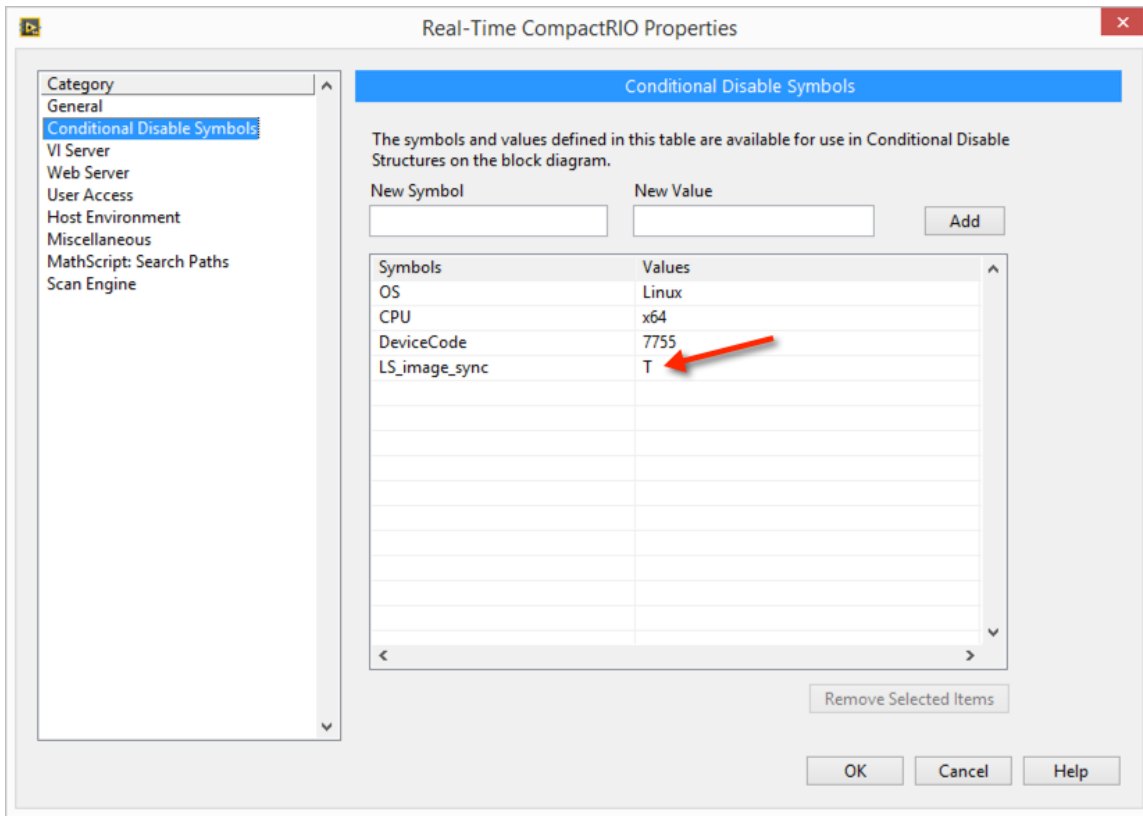

Figure A.2 Conditional Disable Symbol to notify LabSocket-E that the cRIO-903x target is configured to support image synchronization
4. In the LabVIEW Project, right-click on the Target platform node, select Properties, select Conditional Disable Symbols and add a Symbol “LS_image_sync” with Value “T” (no quotes for either field) (Figure A.2).